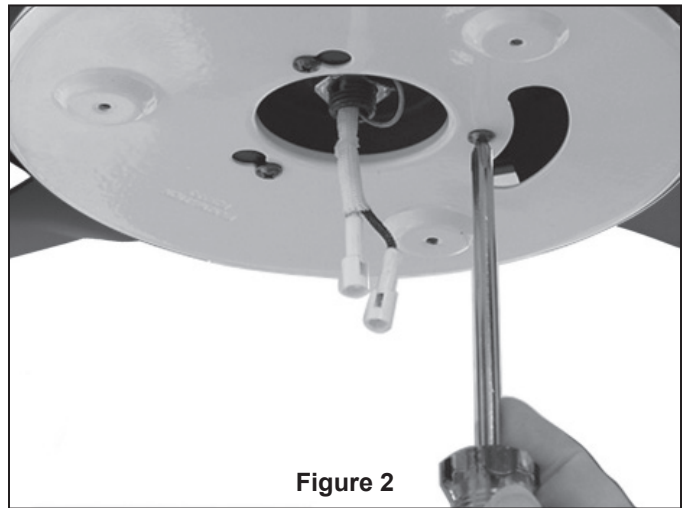

Figure 2
5. Route wires and support cable through Motor Coupling Cover and through opening in Canopy. Position Canopy on fan shown with open side facing up. (Figure 2)
1. Using the $\frac{3}{8}$ " x 2" lag bolt and flat washer, attach safety cable to ceiling joist or wood structural member. The lag bolt will pass through the flat washer, safety cable loop, the junction box and into the building structure (Figure 2). You will first drill a $\frac{1}{4}$ " pilot hole into the building structure to prevent splitting or cracking.
NOTE: Ceiling support cable must be fastened between flat washer and ceiling junction box (Figure 2).
- Slide Receiver Unit into the Hanger Bracket (Fig 2).
4. Attach assembled blades and blade holders to the motor hub using the provided screws. (Figure 2)
2. Securely attach the Adapter Plate to the Support bracket and tightening three screws. (Figure 2)